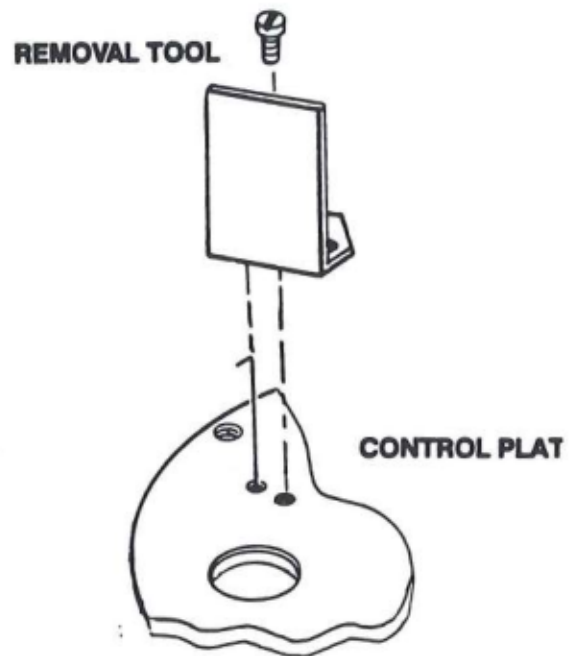
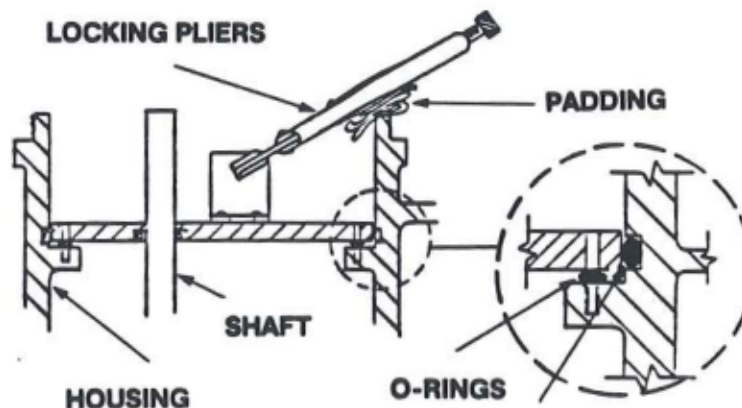

Figure 4-11. Installing the Cover Plate Removal Tool
Figure 4-12. Removing the Control Plate
- 4). Install the Control Plate Removal Clamp (P/N S109795F) with the same screws removed from the limit switch post (see Figure 4-11).
- 5). Remove the four 1/4" hex head screws (605) that hold the control plate (606) to the housing (625).
- 7). Clamp a pair of locking pliers onto the Control Plate Removal Clamp at a slight angle approximately 30° (see Figure 4-12).